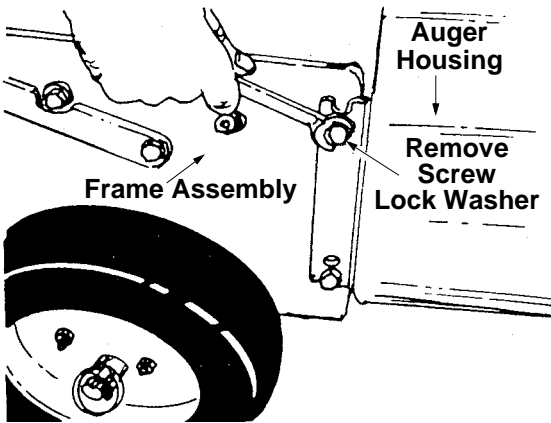

Figure 20
7. Remove the top screws and lock washers which attach the auger housing assembly to the frame assembly. A 9/16" wrench is required. Refer to Figure 20.